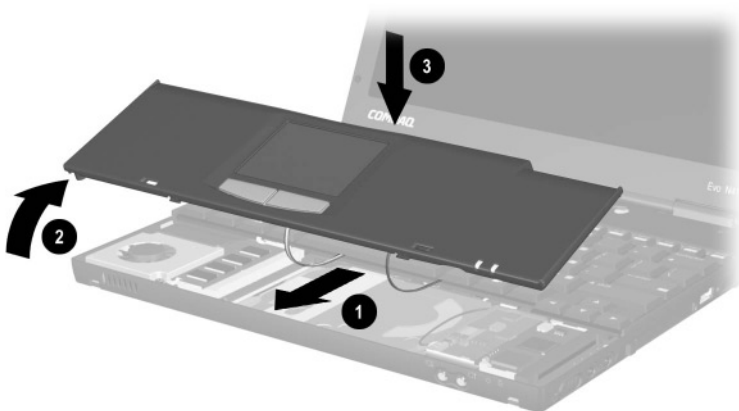

Figure 5-8. Releasing the Palm Rest (continued)
8. While holding the palm rest at a 45 degree angle, slide the front edge of the palm rest forward ❶ (Figure 5-8).
9. After the front edge of the palm rest clears the base enclosure, swing the front edge of the palm rest up and back ❷ and rest the palm rest on the keyboard ❸.